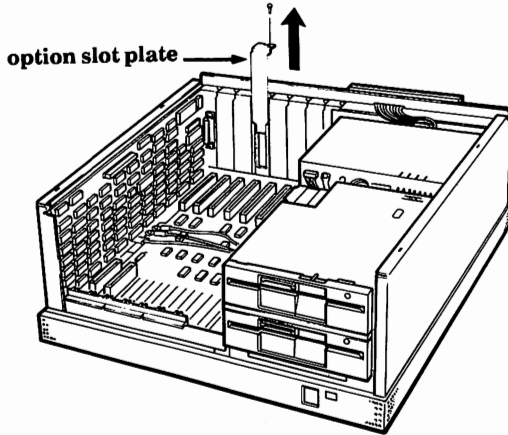

Figure 2-4. Location for the XC 22 board
7. Remove the screw and the option slot plate and set them aside (Fig. 2-4).